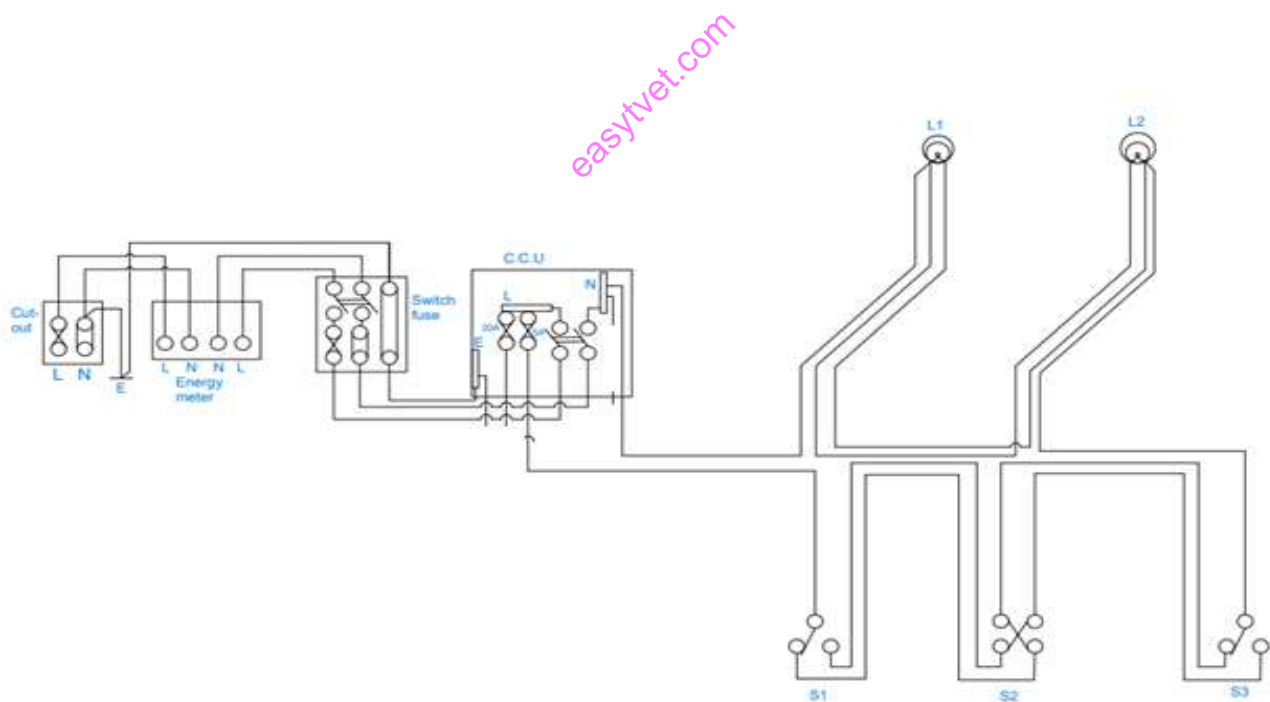

Figure 1. The expected wiring from the candidate
4. When Task 2 is completed by the candidate, you are required to disconnect one of the strappers at S1 or at S2, in the absence of the candidate and allow the candidate to proceed with Task 3. Study figure 1 for guidance.
**This paper consists of Four (4) printed pages**